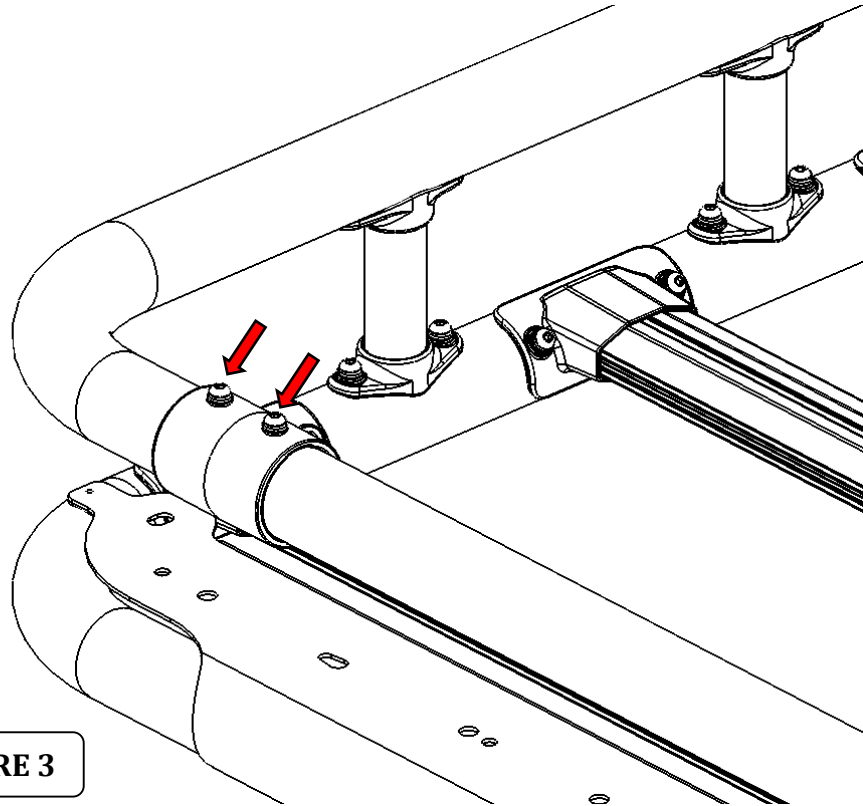

FIGURE 3
- **Step-4** Align the holes in each connectors with the rivet-nuts in the front/rear rails and secure each connector to the front/rear rail using (4) 1/4" x 1" SEMS bolts, (Fig 3).